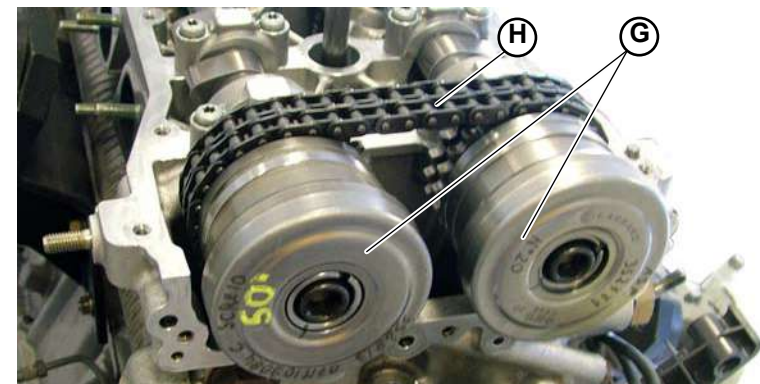

Fig.9
7. Unscrew the camshaft phase transformers (**G-Fig.9**); the backward movement of the two phase transformers must be the same, in order not to damage the upper timing chain.
8. Remove the two phase transformers and fix the upper timing chain properly (**H-Fig.9**).